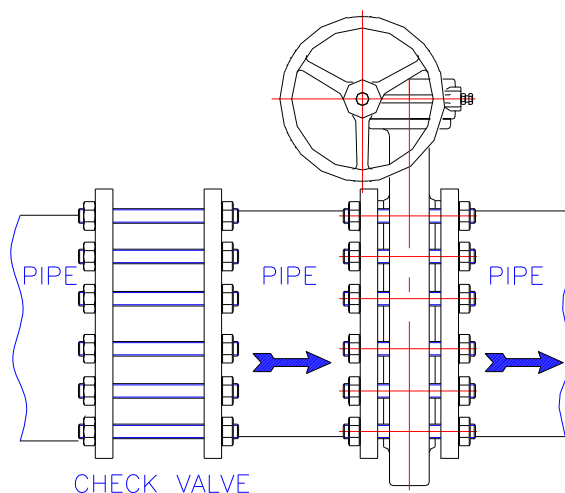

Fig.8
7.8. Using an extension tube between wafer check valve and butterfly valve, never connect them directly. (Fig.8)